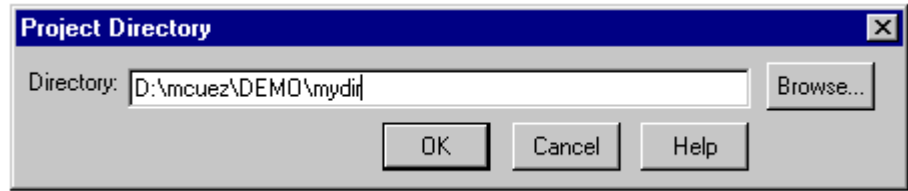

Figure 1-3. Working Project Directory Dialog Box
4. Enter the path for the new project in the edit box. For example, substitute `C:\MCUEZ\DEMO\WMMDS05A` for `C:\MCUEZ\DEMO\mydir` as shown in **Figure 1-3**.